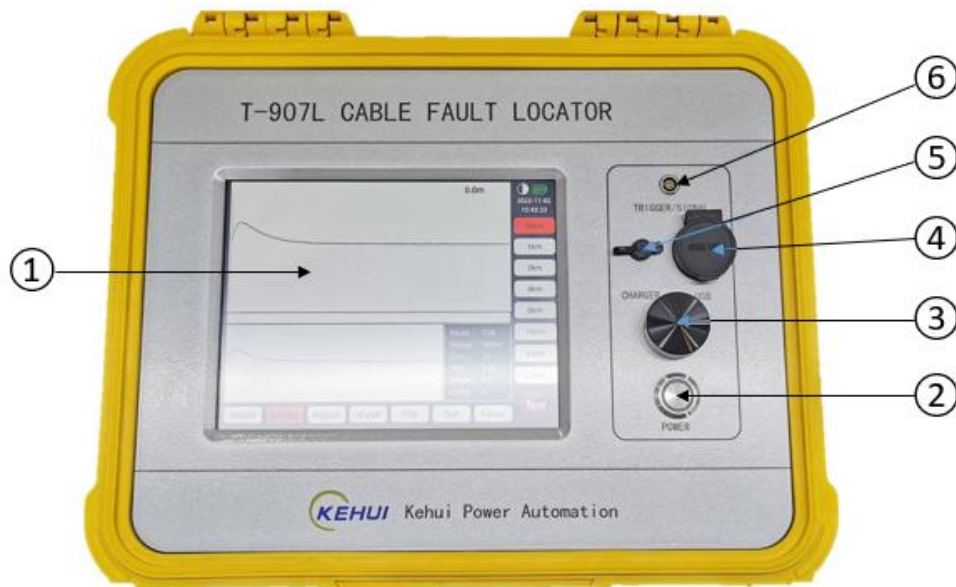

Figure 4.1 T-907L Front Panel
Initially the unit has to be charged using the battery charger supplied; plug the charger into a suitable power outlet and insert its plug in to the socket on the T-907L marked “charger” Figure 4.1.
The detector power can be turned on or off by pressing the appropriate power on or off button on the front panel (② Figure 4.1). The detector power and run indicators light up when the detector is turned on, after a few moments the run indicator will start to flash.
Turning the cursor knob on the panel (Figure 4.1③), causes the virtual cursor of the instrument to move left or right on the screen; the distance displayed on the upper right of the screen will increase or decrease accordingly. Click the <cursor> button, the real cursor will move to the position of the virtual cursor, and use this as the starting point to calculate the distance between the virtual and real cursors.